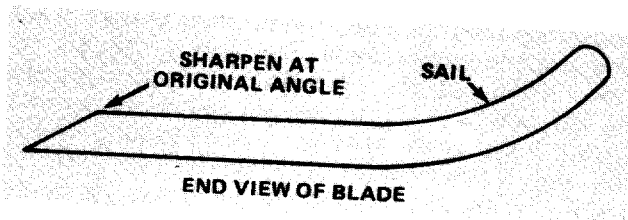

Figure 17
2. Inspect cutting edges of all blades. Sharpen the cutting edges if they are dull or nicked. Sharpen the cutting edges if they are dull or nicked. Sharpen only the top of the cutting edge and maintain the original cutting angle to make sure of sharpness (Fig. 17). The blade will remain balanced if same amount of metal is removed from both cutting edges.